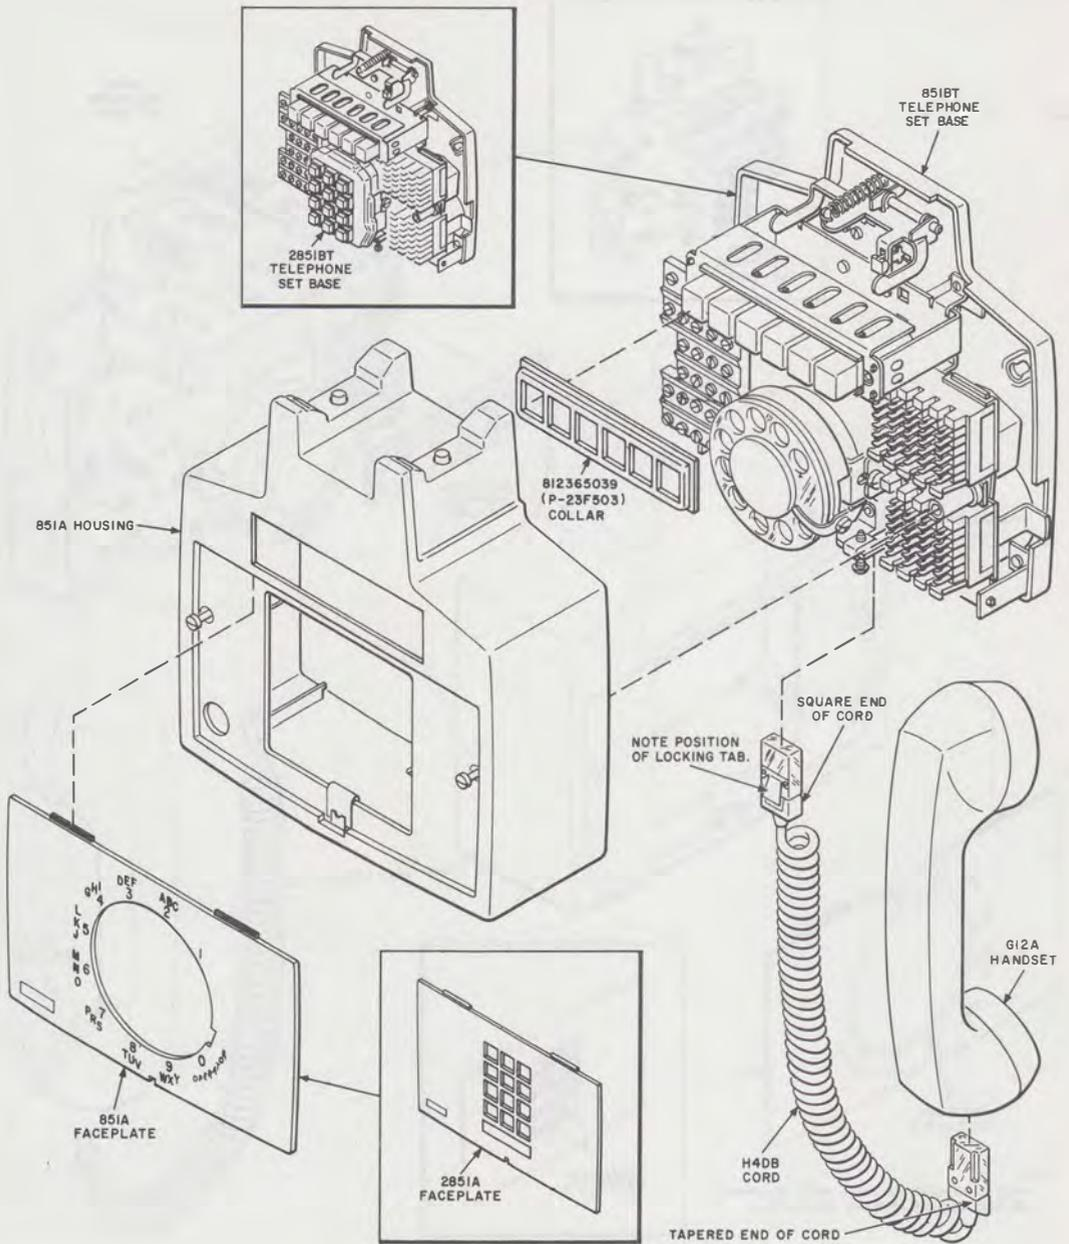

Fig. 19—Station Modular Arrangement, 851BT and 2851BT Telephone Set Showing Current 851A Housing and Base Plate
3.18 Install H4DB handset cord in early production models of 851- and 2851-type telephone sets by inserting the end of the cord having the tapered plug into the handset and the square end into jack on bottom of set. Spring locking tab should face away from wall to bottom of set (Fig. 19).